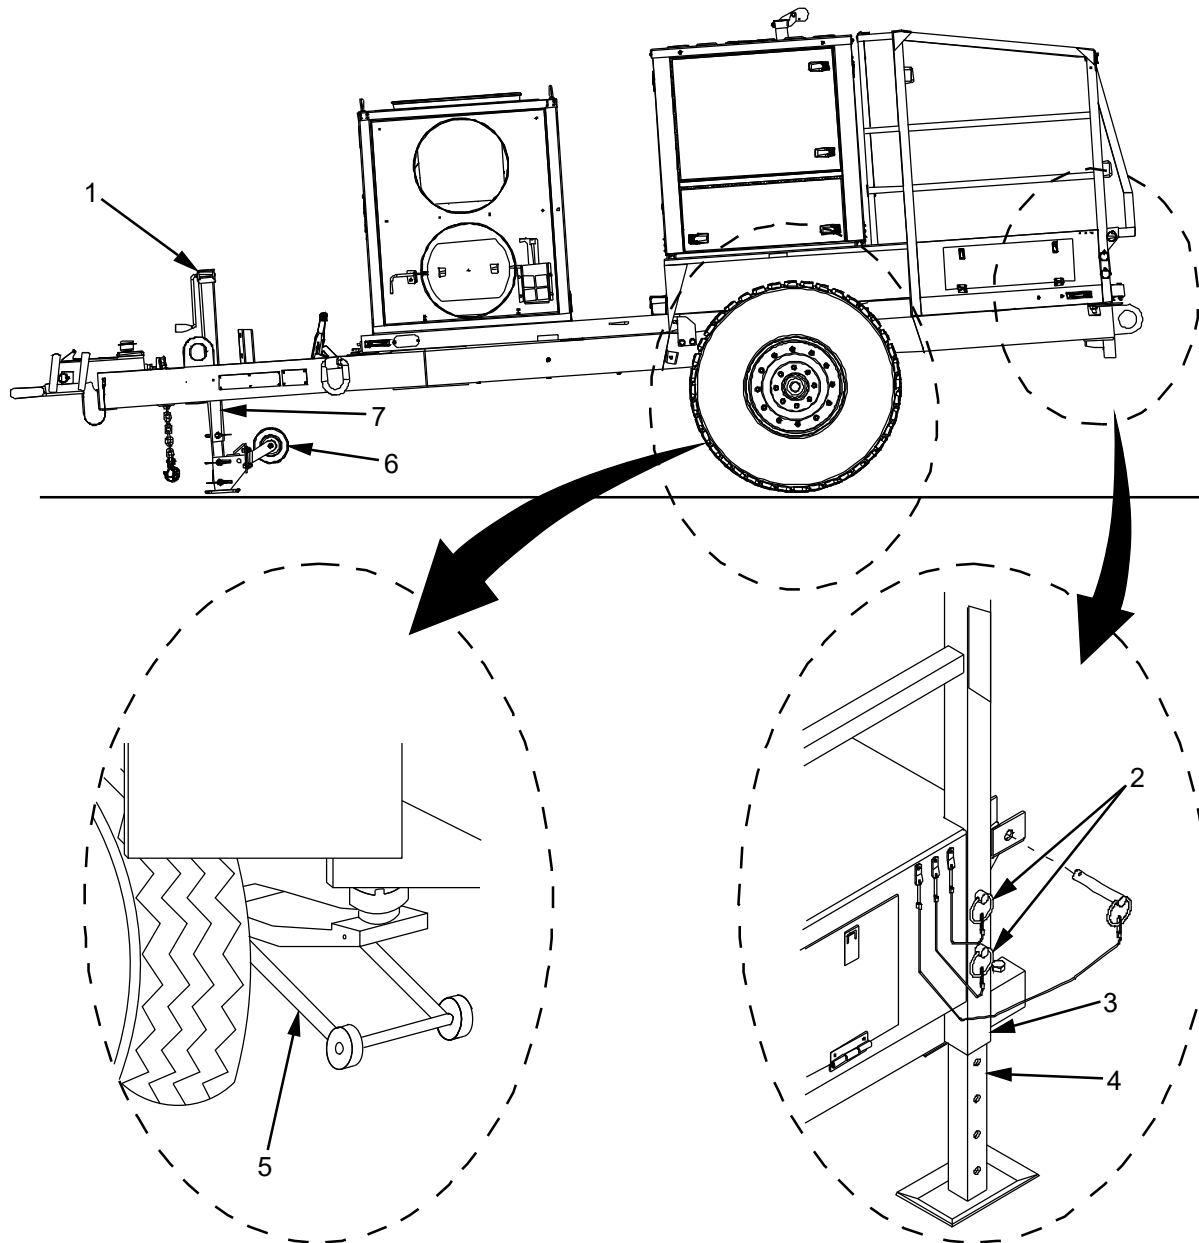

Figure 1. Stabilizer Leg Removal/Replacement.
7. Ensure skid plate (Figure 1, Item 6) is in the down position and dolly wheel is facing rear of trailer.
8. Remove pin (Figure 1, Item 7) and raise tongue jack assembly (Figure 1, Item 1) to highest position to lower tongue assembly to lowest point.
9. Position floor jack (Figure 1, Item 5) beneath trailer axle on same side as stabilizer leg being replaced.
10. Remove two locking pins (Figure 1, Item 2) that secure the trailer stabilizer leg (Figure 1, Item 4) being replaced and lower stabilizer leg as far as possible.
11. Raise floor jack (Figure 1, Item 5) until sufficient height is attained to remove stabilizer leg (Figure 1, Item 4) from receptacle (Figure 1, Item 3) on trailer.
1. Insert stabilizer leg (Figure 1, Item 4) into receptacle (Figure 1, Item 3) on trailer and raise stabilizer leg to the fully stowed position.
2. Insert two locking pins (Figure 1, Item 2) and secure stabilizer leg (Figure 1, Item 4).
3. Lower and remove floor jack (Figure 1, Item 5).
4. Adjust the tongue jack assembly (Figure 1, Item 1) and stabilizer legs (Figure 1, Item 4) to appropriate operational height. Replace pin (Figure 1, Item 7) in tongue jack assembly (Figure 1, Item 1).